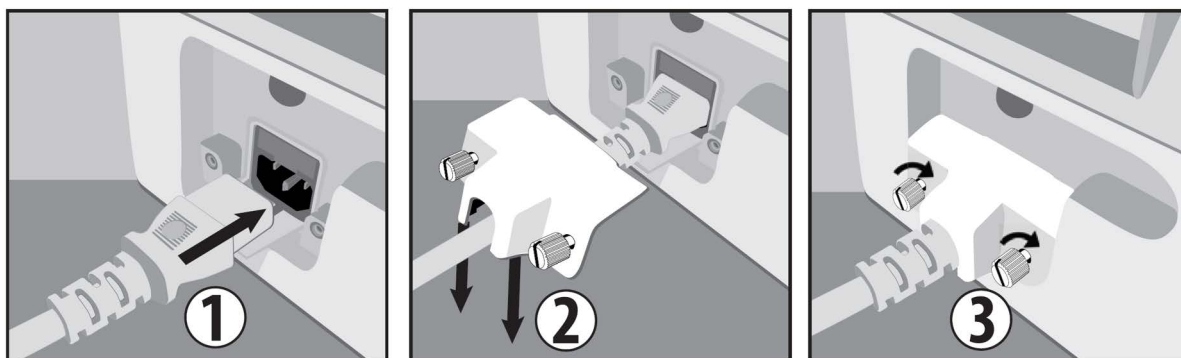

Figure 3-5 HemoSphere Alta advanced monitor power entry cover - installation steps
- 1 If the power entry cover is already installed, remove the two screws (image 3, figure 3-5) that attach the power entry cover to the rear panel of the monitor.
- 2 Connect the detachable power supply cord. Ensure that the plug is seated securely. (image 1, figure 3-5)
- 3 Attach the power cord entry cover over the plug by routing the power cord through the cover opening and then pressing the cover and gasket up against the rear panel of the monitor, aligning the two screw holes. (image 1, figure 3-5)
- 4 Reinsert the screws to fasten the cover onto the monitor. (image 3, figure 3-5)